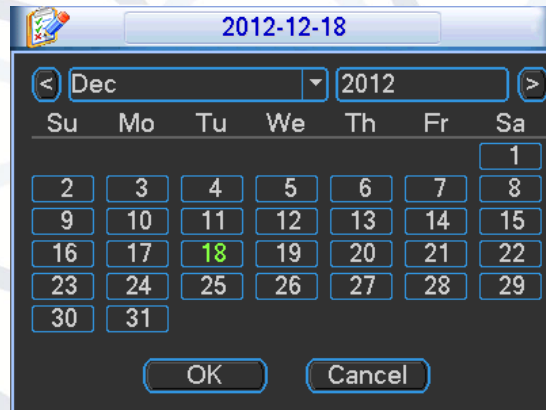

Figure 5-22
- **Holiday setting:** Click this to see the interface shown as in Figure 5-22. Here you can set the holiday date. Please go to the Holidays Period interface to set the holiday date record setup.